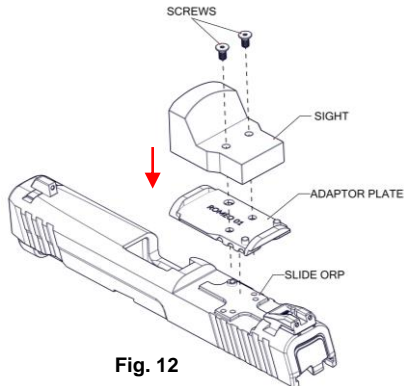

Fig. 12
3. Place the Sight above the Adaptor Plate. Align their bolt holes (Fig. 12).
5. Screw in and fasten the two screws with a torque of 8.9 in-lbs with the adapter plate and sight mounted to the OPR Slide. **(NOTE:** It is recommended that you wait at least 24 hours after applying the Loctite on the screws before firing the pistol). (Fig. 12).